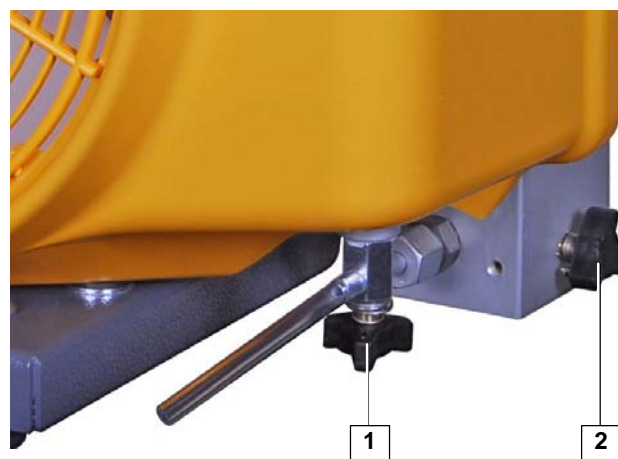

Fig. 5 Condensate drain taps
2. Open condensate drain tap (1, Fig. 5) of intermediate separator (on petrol units additionally the condensate drain tap (2, Fig. 5) of final separator) to unload the compressor during the starting phase.
4. As soon as final speed is reached close condensate drain tap (1, Fig. 5) of intermediate separator (on petrol units additionally the condensate drain tap (2, Fig. 5) of final separator).